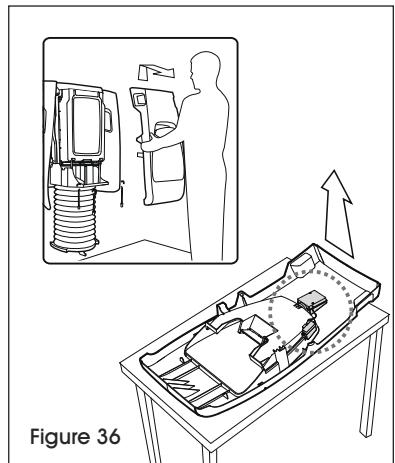

Figure 36
- To change battery, remove the front panel and lay it on a flat surface, with the inside face up. (See Figure 36)